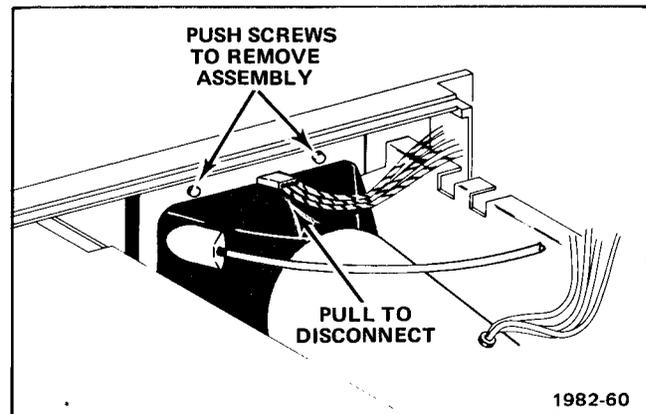

Fig. 5-14. T922R scale illum assembly replacement.
3. Pull SCALE ILLUM assembly away from the crt to remove. If this is difficult, push against the two screws from behind the front panel (see Fig. 5-14).